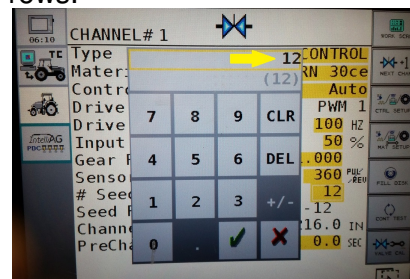

Figure 29
Step 11. Select # Seed Rows and enter. Since we use average row width on Twin Row planters (Figure 29), this number should be how many openers are on the unit.